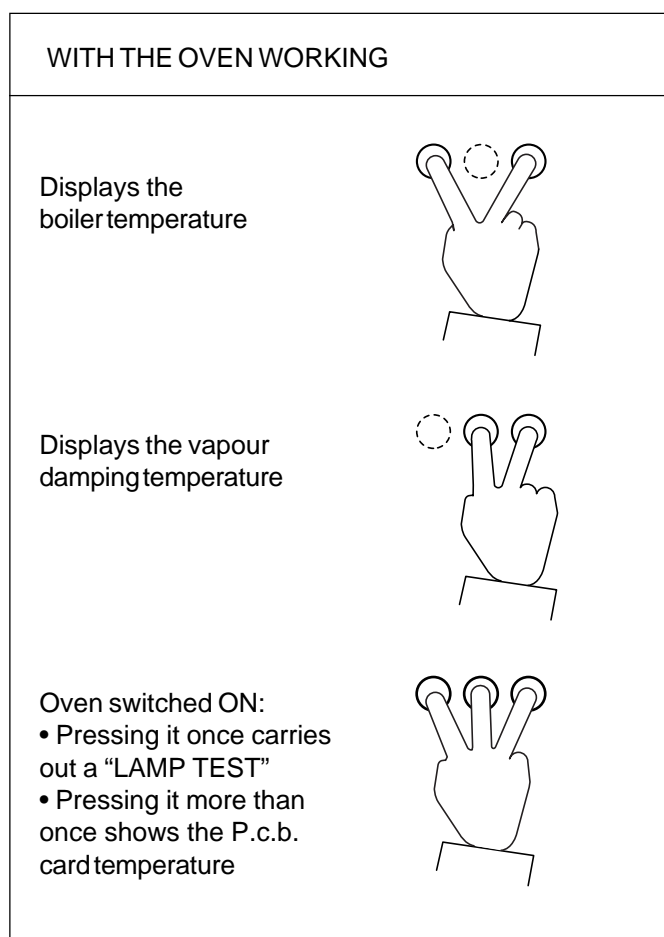

Fig. 5
- By pressing and holding down the two external service buttons "A" and "C", (see fig.5) the temperature inside the boiler is shown on the oven chamber temperature display. Once the buttons are released the oven chamber temperature will reappear on the display. In the ISG models the reading 0°C will appear on the display because the boiler is not present.
Pressing all three service buttons at the same time (see Fig. 5) has two effects: